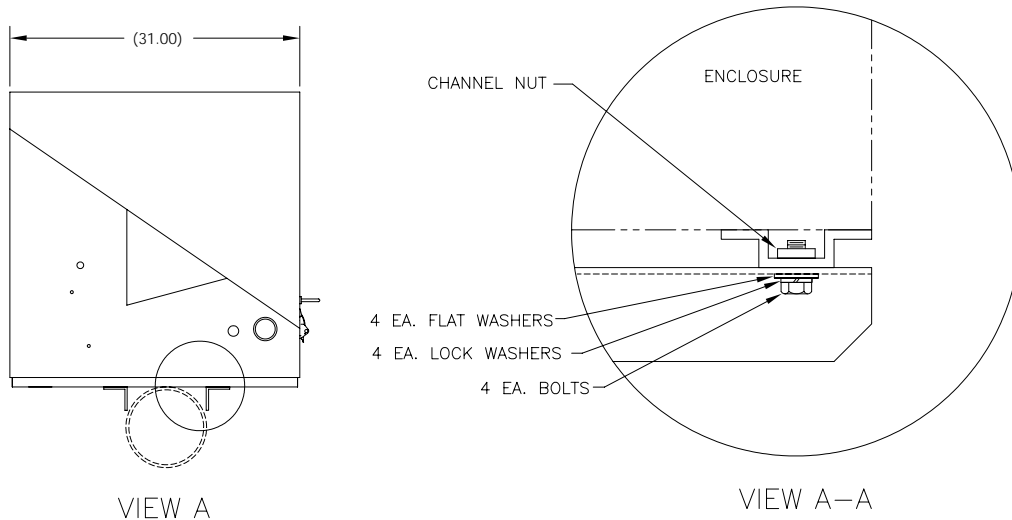

Figure 6 Mounting Hardware Overview
- 2) Place a lock washer, then a flat washer on one of the 1 ¼" bolts (see Figure 6).